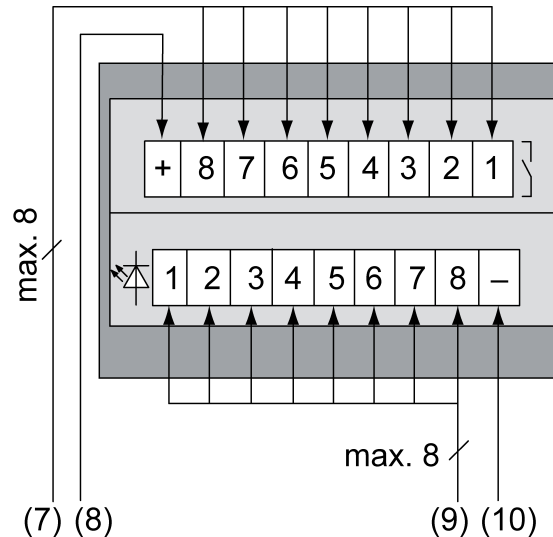

Figure 2: Wiring example for 4-gang pushbutton module
- Mount supporting frame (1) in the right orientation on an appliance box. Note marking **TOP** ; marking **A** in front. Use only the enclosed box screws (7).
- Push frame (2) onto supporting frame.
- Connect push button module (4) to relay station (figure 2) as shown in the connection example.